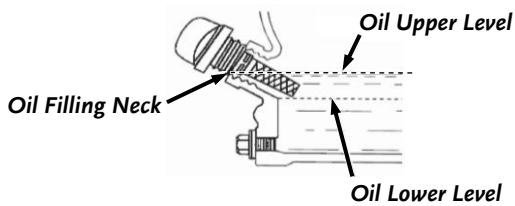

Figure 10
3. Continue to add oil until the oil reaches the lip of the Oil Filling Neck (do not let the oil overflow) (Figure 10).